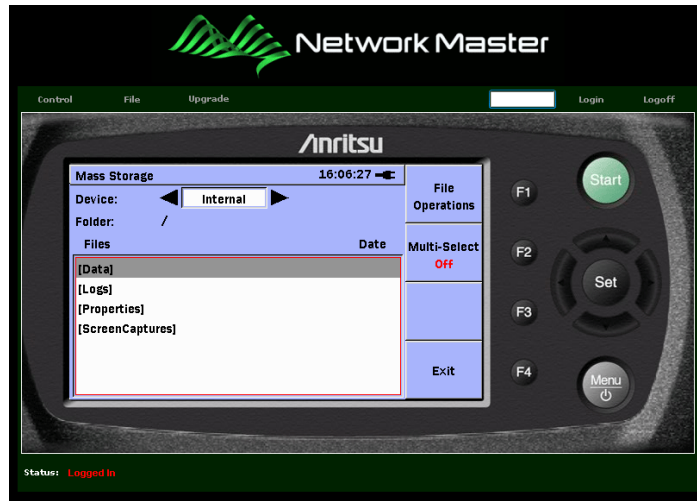

Figure B.2-2 Remote Client (after Login)
4. Enter the **Remote Control Password** that was established in section B.1, and click on the **Login** label. The screen shown in Figure B.2-2 will be displayed.